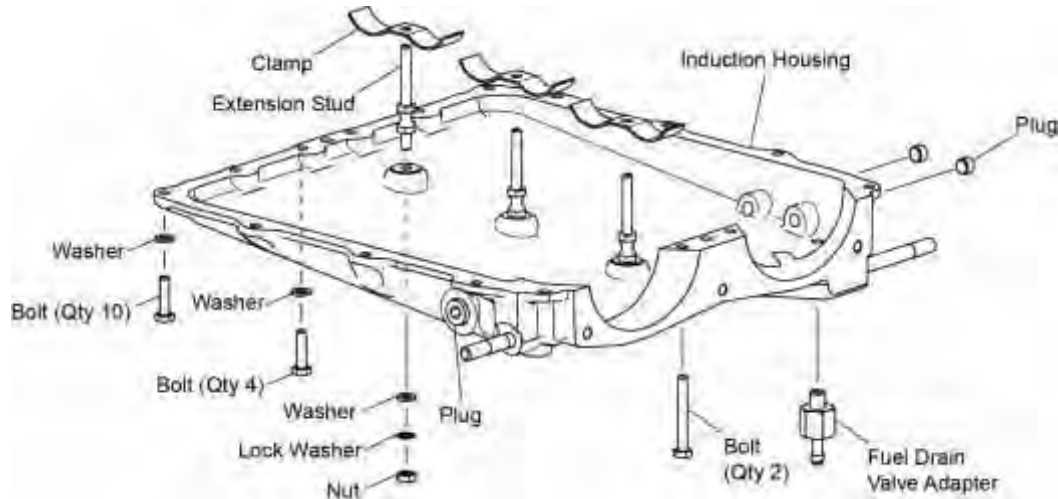

Figure 3
The fuel drain valve adapter (Figure 3) is a valve in the induction system that closes during engine operation and opens when the engine is shut down to allow excess fuel to drain from the induction system. If the valve is not operating correctly it can either allow outside air into the induction system during engine operation or fail to drain excess fuel from the induction system when the engine is shut down.
- A. Remove the fuel drain valve adapter assembly from the induction housing (Figure 3).
- (1) Remove the 10 bolts, 20 washers, 10 lock washers, and nuts from the induction housing and oil sump (Figure 3). Discard the lock washers.
- (2) Remove the four bolts and washers from the induction housing.
- (3) Remove the induction housing.